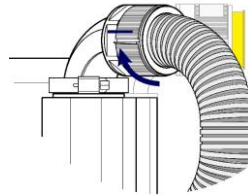

Fig 5.2.4
▶ Hold the air inlet hose and reset the plastic clamp until the fixed sheet slides in the groove. Pull the hose lightly to judge if it is well connected. (Fig 5.2.4)